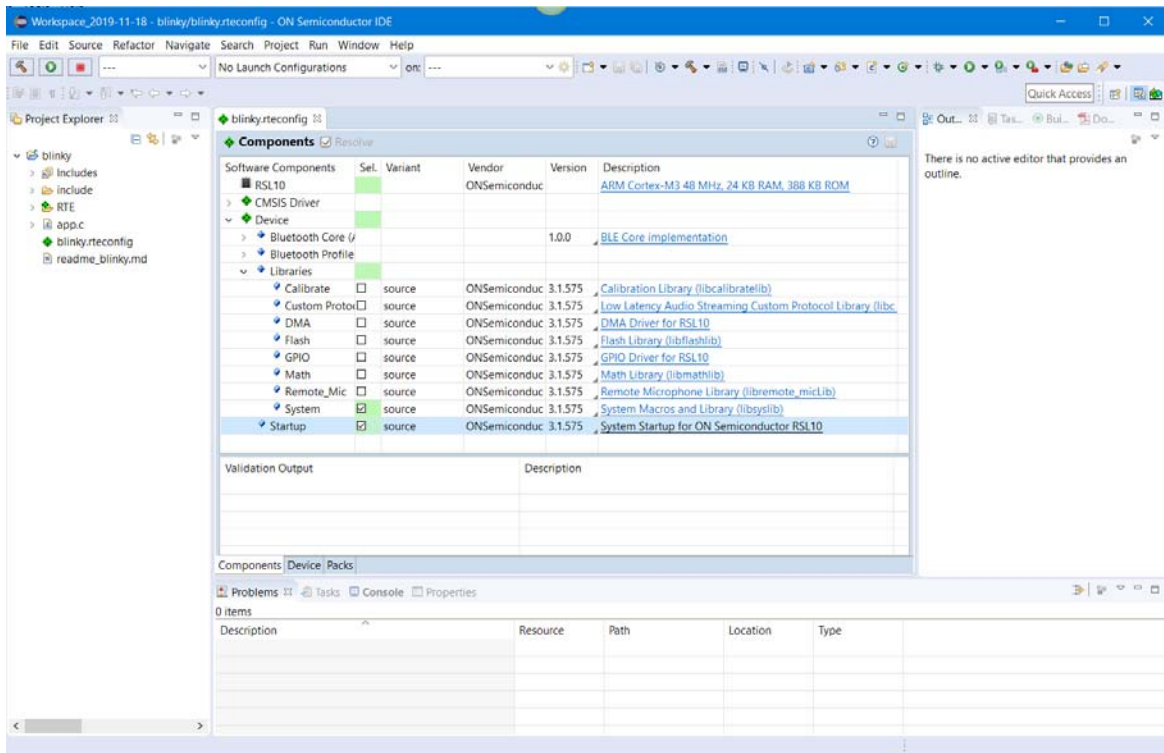

Figure 6. RTE Configuration for the Blinky Example Project in the onsemi IDE
3. The C/C++ perspective opens and displays your newly copied project. In the Project Explorer panel, you can expand your project folder and explore the files inside your project. On the right side, the *blinky.rteconfig* file displays software components. If you expand **Device > Libraries**, you can see the **System library** (*libsyslib*) and the **Startup** (*libcmsis*) components selected for *blinky* (see Figure 6).